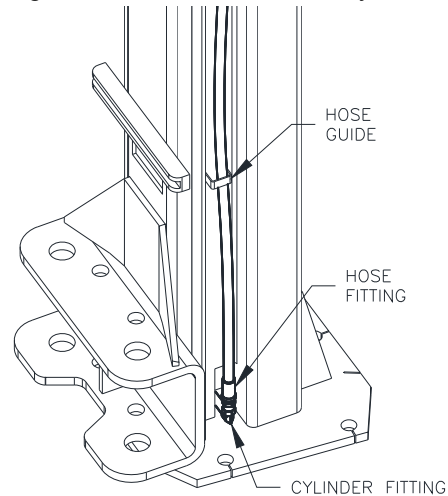

Fig 14 – Bottom Hose Connection
29) Attach Power Hose to Cylinder Fitting at the bottom of the Power Column as shown in **Fig 14** below. Repeat with longer Idler Hose and Idler Column. If lift is installed in the “Tall Height” setting, use Hose Extension and Hose Extension Fitting between Idler Hose and Cylinder Fitting.